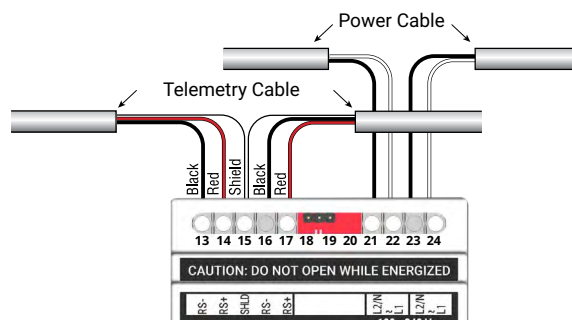
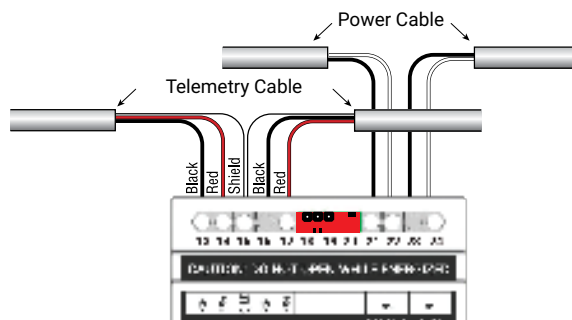

Figure 3a. Power and Telemetry Connections for TTSIM-3-LV/LVS and TTSIM-4-LV
Figure 3b. Power and Telemetry Connections for TTSIM-3/4-HV/HVS
Power and Telemetry connection as shown in Figure 3a and Figure 3b and in Tables 1a and 1b.
- Strip the primary wires to expose approximately 6 mm (¼ in) of conductor and make the following connections: (see Figure 3a and 3b).